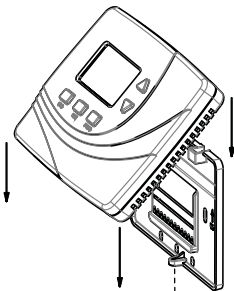

Figure 12.
2. Install retaining screw provided with the mounting hardware (see Fig. 12).